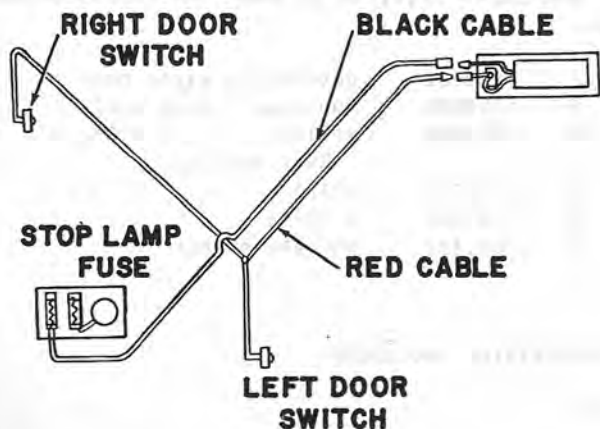

Fig. 2
8. Connect the black cable end to the terminal on the fuse block. See Fig. 2. Use screw, Part No. G-122159 and lock washer, Part No. 121752.